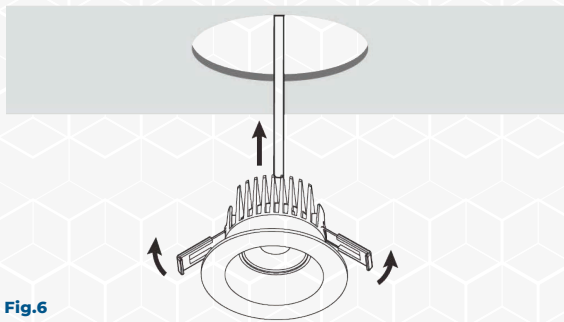

Fig.6
3. Push spring loaded clips on the fixture upwards and insert fixture base into the mounting hole. Release the clips and fixture will be pulled flush to the ceiling. **(see Fig.6)**